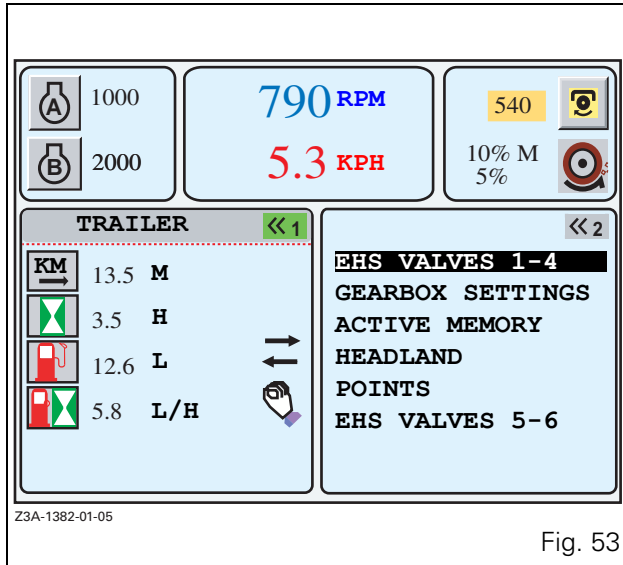

Fig. 53
Transport parameters: description (Fig. 53)
-  Allows field or transport parameters to be selected. When the window (Fig. 53) is open and active, the window (Fig. 50) is displayed.